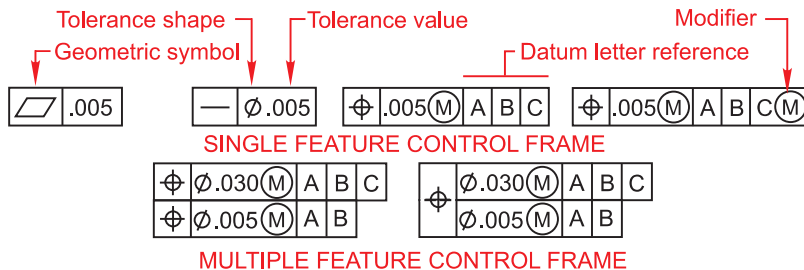

Figure 5
4.4 Feature Control Frame – A feature control frame which is divided into compartments shall contain a geometric characteristic symbol, geometric tolerance value, if applicable, modifiers, and datum reference letters. See Figure 5 for a few examples.